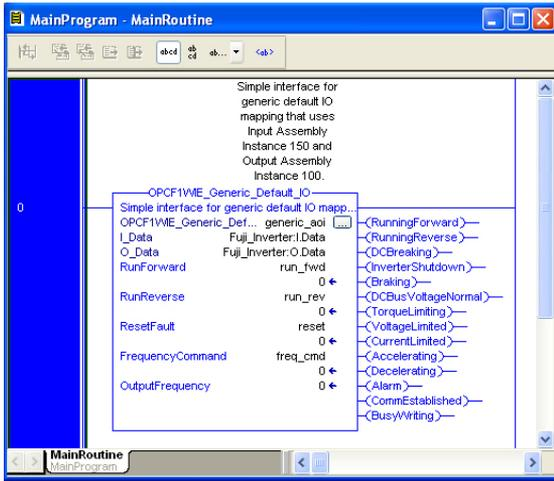

Figure 92: Configure Generic Default AOI
- 10) Edit the add-on instruction according to Figure 92.